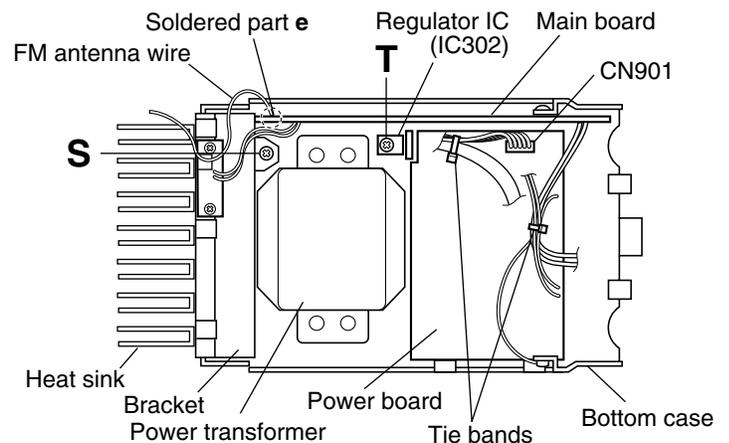

Fig.19
4. From the top side of the main body, remove the screw **S** retaining the bracket of the main board. (See Fig.19.)
5. Remove the screw **T** retaining the regulator IC (IC302). (See Fig.19.)
6. Remove the tie band bundling the wires. (See Fig.19.)
7. Disconnect the wire from the connector CN901 on the power board. (See Fig.19.)
8. Remove the solder from the soldered part **e** that attaches the FM antenna wire to the main board. (See Fig.19.)